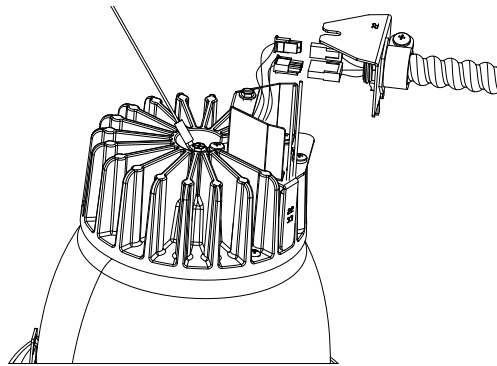

Figure 2
2. Connect LED and power plugs to appropriate sockets. See Figure 2.